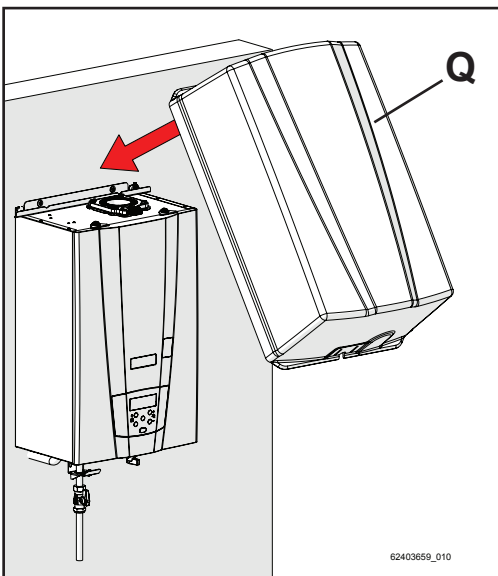
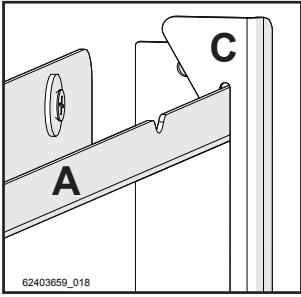
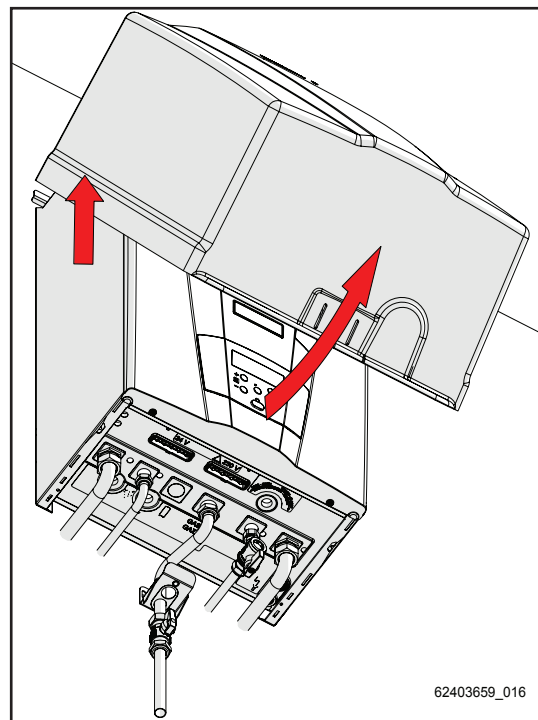

Figure 5-41
Figure 5-44
Figure 5-51
- 7 - Apply the cover as shown in figures 5-41, 5-42 and 5-43 in sequence, making sure that the hooks "C", in the cover frame, are anchored to the upper fixing bracket "A" as shown in figure 5-44;
- 3 - Turn and lift the cover as shown in figure 5-51, remembering to remove frame hooks "C" from the upper support bracket "A" as illustrated in figure 5-44.